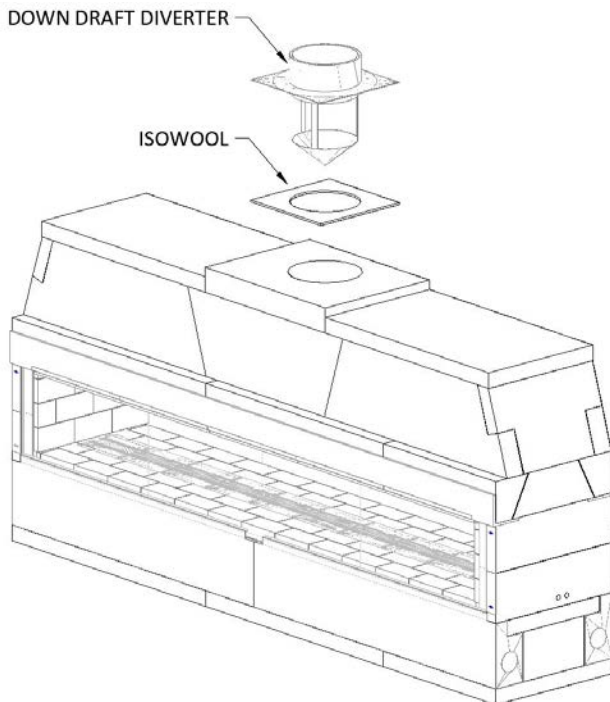

FIGURE 20
- 2) Center the Isowool blanket over Isokern Top Plate’s outlet and trace the outlet’s outline with a pen or marker. Cut a hole in the blanket along this outline to match the hole in the Isokern top plate. Center the cut Isowool blanket over the Isokern Top Plate flue opening, then center anchor plate over the Isowool blanket (**Figure 20**).
- 3) Secure the Anchor Plate with four (4) masonry anchors.